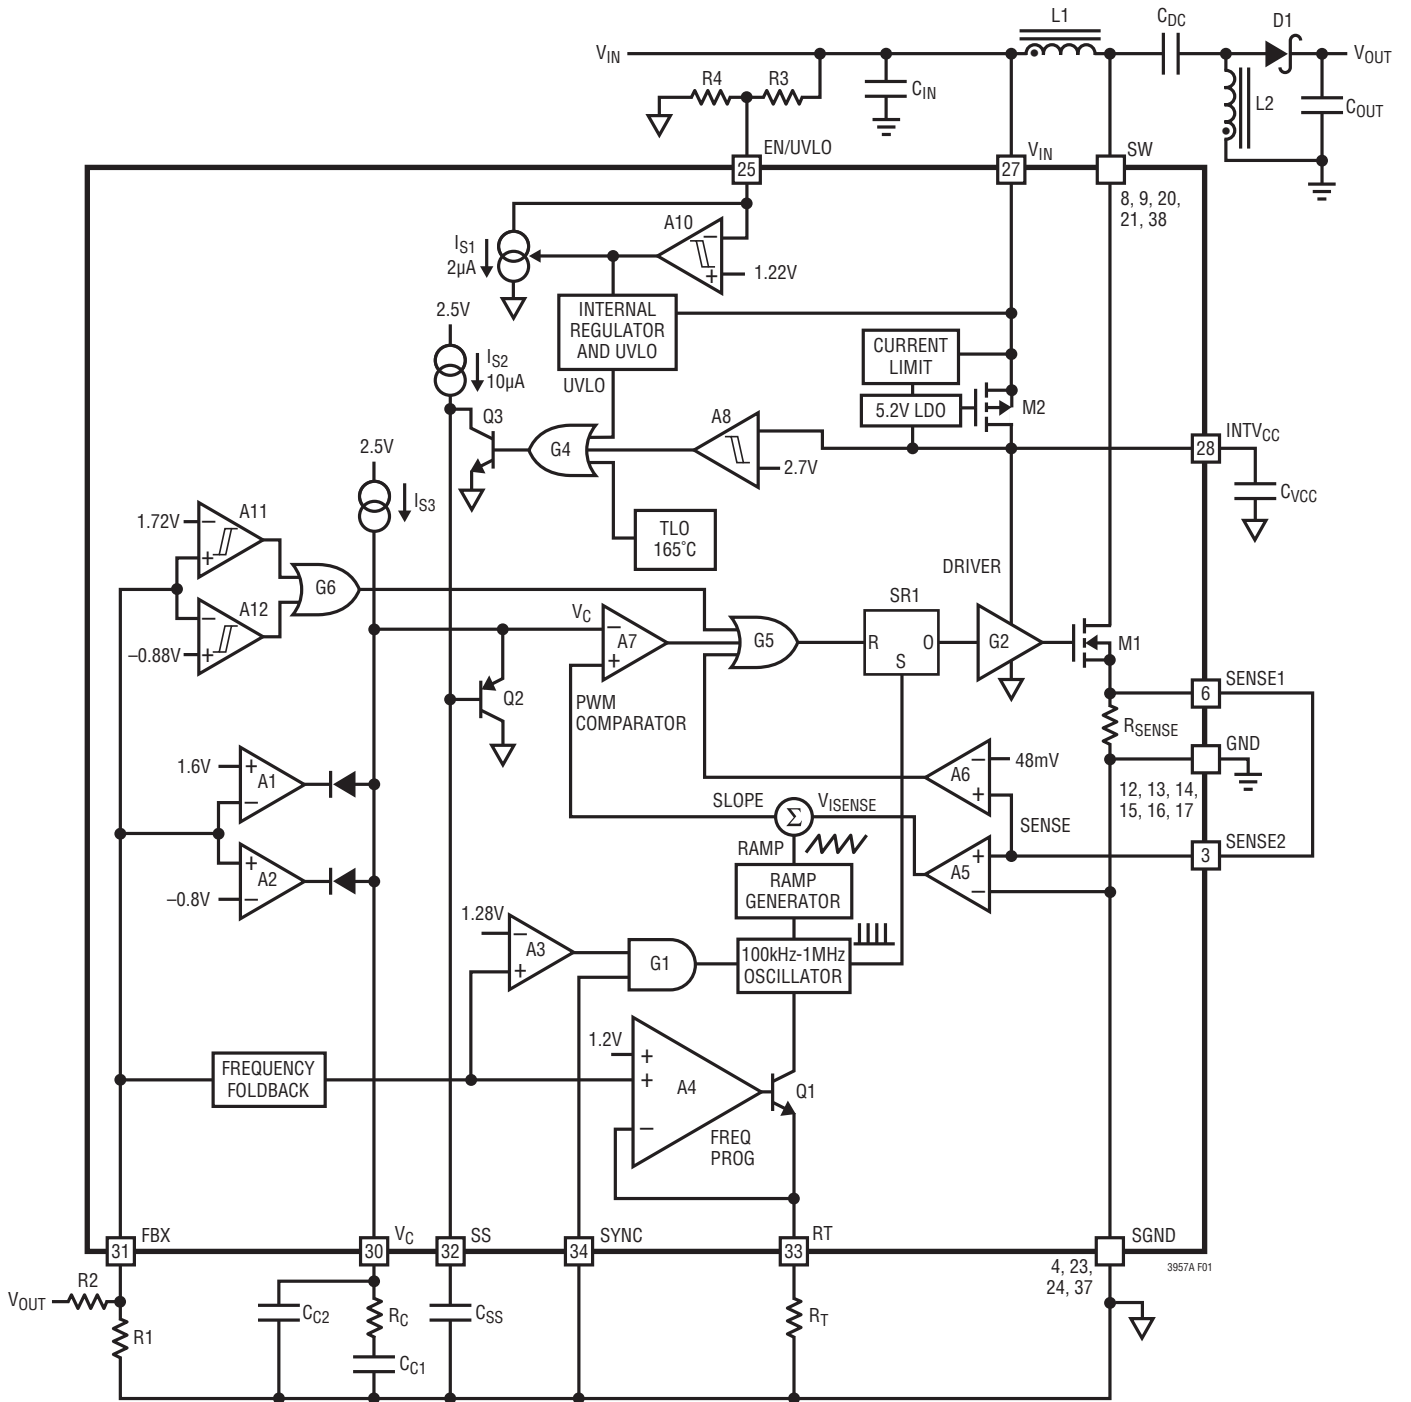

Figure 1. LT3957A Block Diagram Working as a SEPIC Converter
The LT3957A uses a fixed frequency, current mode control scheme to provide excellent line and load regulation. Operation can be best understood by referring to the Block Diagram in Figure 1.
The LT3957A is capable of generating either positive or negative output voltage with a single FBX pin. It can be configured as a boost, flyback or SEPIC converter to generate positive output voltage, or as an inverting converter to generate negative output voltage. When configured as a SEPIC converter, as shown in Figure 1, the FBX pin is pulled up to the internal bias voltage of 1.6V by a voltage divider (R1 and R2) connected from  $V_{OUT}$  to SGND. Comparator A2 becomes inactive and comparator A1 performs the inverting amplification from FBX to  $V_C$ . When the LT3957A is in an inverting configuration, the FBX pin is pulled down to  $-0.8V$  by a voltage divider connected from  $V_{OUT}$  to SGND. Comparator A1 becomes inactive and comparator A2 performs the noninverting amplification from FBX to  $V_C$ .
The purpose of this current is to allow the user to program the rising hysteresis. The Block Diagram of the comparator and the external resistors is shown in Figure 1. The typical falling threshold voltage and rising threshold voltage can be calculated by the following equations:
An internal, low dropout (LDO) voltage regulator produces the 5.2V INTVCC supply which powers the gate driver, as shown in Figure 1. The LT3957A contains an undervoltage lockout comparator A8 for the INTVCC supply. The INTVCC undervoltage (UV) threshold is 2.7V (typical), with 0.1V hysteresis, to ensure that the internal MOSFET has sufficient gate drive voltage before turning on. When INTVCC is below the UV threshold, the internal power switch will be turned off and the soft-start operation will be triggered. The logic circuitry within the LT3957A is also powered from the internal INTVCC supply.
If LT3957A operates at a low VIN and high switching frequency, the voltage drop across the drain and the source of the LDO PMOS (M2 in Figure 1) could push INTVCC to be below the UV threshold. To prevent this from happening, the INTVCC pin can be shorted directly to the VIN pin. VIN must not exceed the INTVCC Absolute Maximum Rating (8V). In this condition, the internal LDO will be turned off and the gate driver will be powered directly from VIN. It is recommended that INTVCC pin be shorted to the VIN pin if VIN is lower than 3.5V at 1MHz switching frequency, or VIN is lower than 3.2V at 100kHz switching frequency. With the INTVCC pin shorted to VIN, however, a small current (around 16μA) will load the INTVCC in shutdown mode.
The choice of operating frequency may be determined by on-chip power dissipation (a low switching frequency may be required to ensure IC junction temperature does not exceed 125°C), otherwise it is a trade-off between efficiency and component size. Low frequency operation improves efficiency by reducing gate drive current and MOSFET and diode switching losses. However, lower frequency operation requires a physically larger inductor. Switching frequency also has implications for loop compensation. The LT3957A uses a constant-frequency architecture that can be programmed over a 100kHz to 1000kHz range with a single external resistor from the RT pin to SGND, as shown in Figure 1. A table for selecting the value of RT for a given operating frequency is shown in Table 1.
The output voltage VOUT is set by a resistor divider, as shown in Figure 1. The positive and negative VOUT are set by the following equations:
The LT3957A addresses this mechanism with the SS pin. As shown in Figure 1, the SS pin reduces the power MOSFET current by pulling down the  $V_C$  pin through Q2. In this way the SS allows the output capacitor to charge gradually toward its final value while limiting the start-up peak currents. The typical start-up waveforms are shown in the Typical Performance Characteristics section. The inductor current  $I_L$  slewing rate is limited by the soft-start function.
Loop compensation determines the stability and transient performance. The LT3957A uses current mode control to regulate the output which simplifies loop compensation. The LT3957A improves the no-load to heavy load transient response, compared to the LT3957. New internal circuits ensure that the transition from not switching to switching at high current can be made in a few cycles. The optimum values depend on the converter topology, the component values and the operating conditions (including the input voltage, load current, etc.). To compensate the feedback loop of the LT3957A, a series resistor-capacitor network is usually connected from the  $V_C$  pin to SGND. Figure 1 shows the typical  $V_C$  compensation network. For most applications, the capacitor should be in the range of 470pF to 22nF, and the resistor should be in the range of 5k to 50k. A small capacitor is often connected in parallel with the RC compensation network to attenuate the  $V_C$  voltage ripple induced from the output voltage ripple through the internal error amplifier. The parallel capacitor usually ranges in value from 10pF to 100pF. A practical approach to design the compensation network is to start with one of the circuits in this data sheet that is similar to your application, and tune the compensation network to optimize the performance. Stability should then be checked across all operating conditions, including load current, input voltage and temperature. Application Note 76 is a good reference on loop compensation.